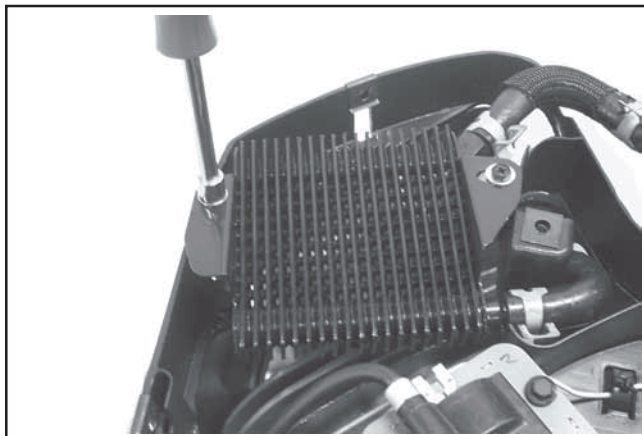

Figure 8-19. Removing Oil Cooler Mounting Screws.
1. Remove the two oil cooler mounting screws. Do not lose any washers (if used). See Figure 8-19.